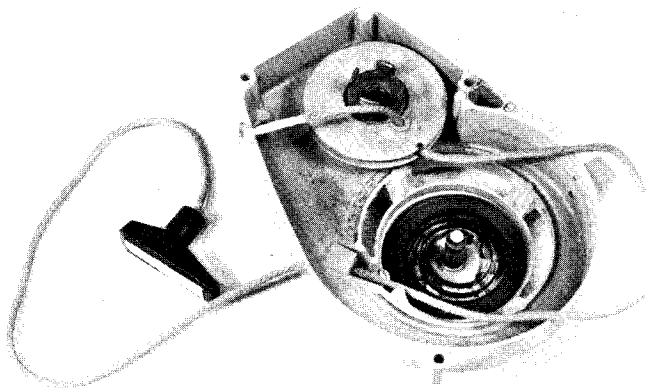

Fig. 78 — Spring Secured into Housing with Screw Prior to Installing Pulley
4. Install new spring and secure in place with screw and washer, Fig. 78.